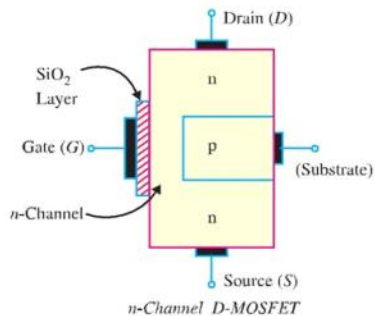

Fig. 19.43
1. **D-MOSFET.** Fig. 19.43 shows the constructional details of *n*-channel *D-MOSFET*. It is similar to *n*-channel *JFET* except with the following modifications/remarks :
(i) The *n*-channel *D-MOSFET* is a piece of *n*-type material with a *p*-type region (called *substrate*) on the right and an *insulated gate* on the left as shown in Fig. 19.43. The free electrons (Q) it is *n*-channel) flowing from source to drain must pass through the narrow channel between the gate and the *p*-type region (*i.e.* substrate).